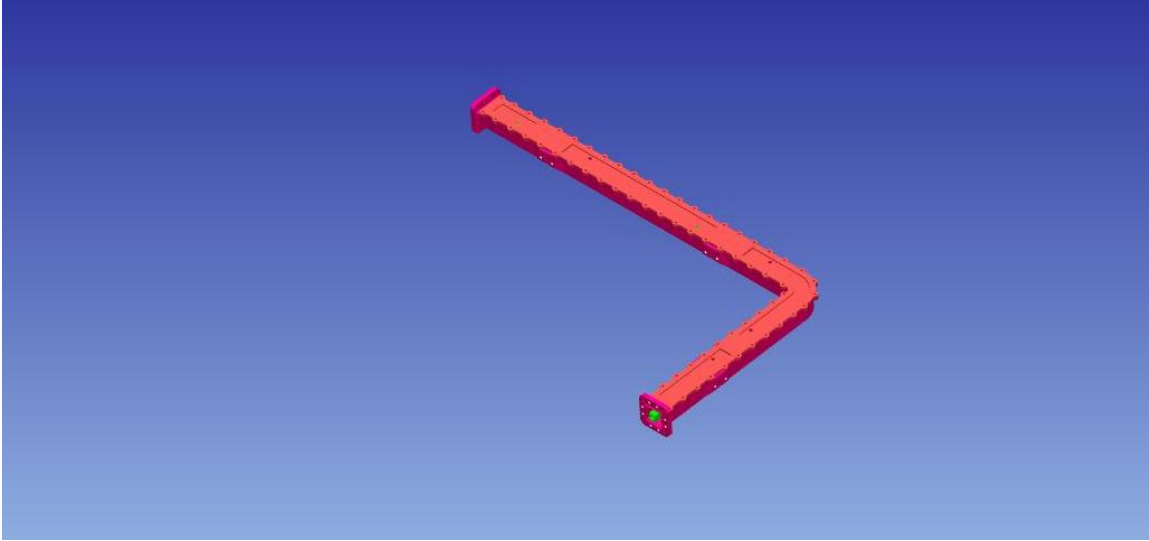
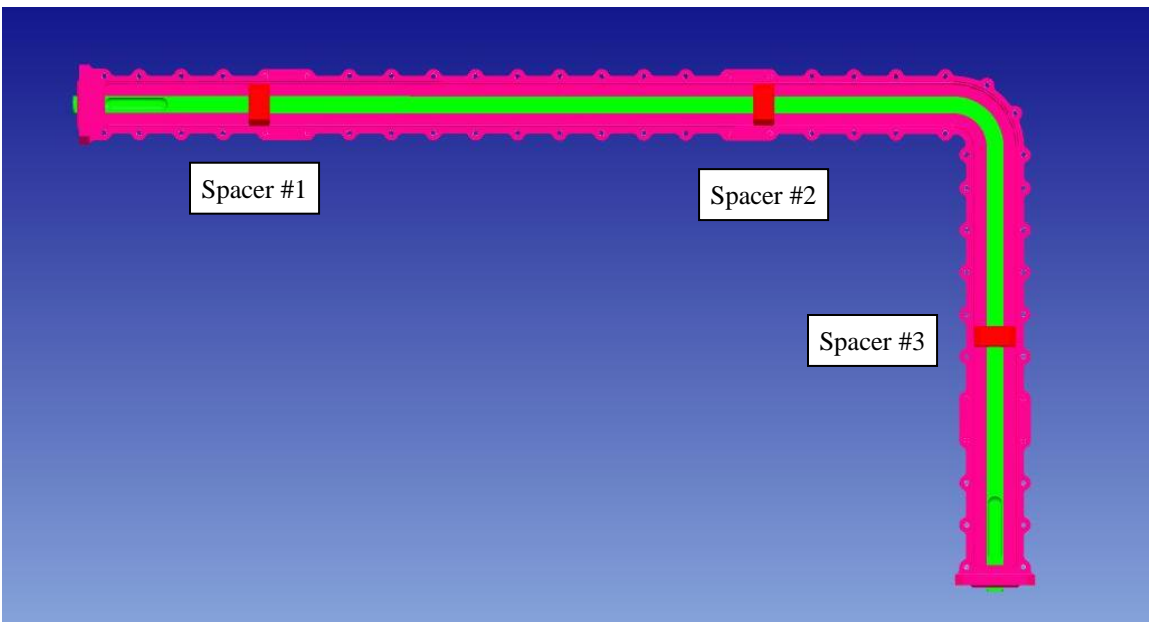
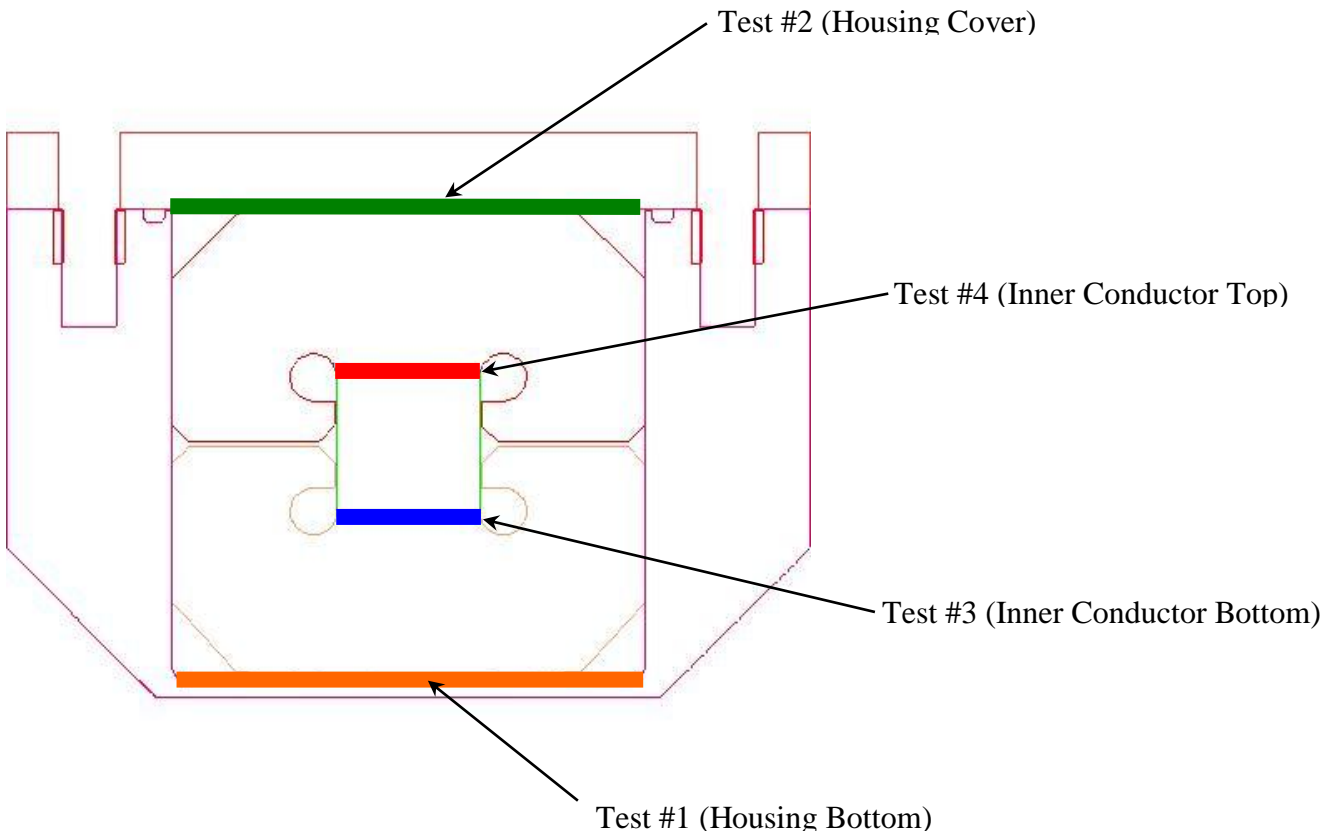

Figure 1: Squareax Assembly (SP940133-002)
Figure 2: Squareax Spacer Layout (Housing cover removed)
Figure 8: Squareax Cross-Section; Pressure-X Film Locations
Note: Squareax Assembly SP940133-002 (Figure 1) with Boron Nitride Spacers at 12 inch spacing (Figure 2) will be used for all pressure tests.
3. Place strips of High Pressure-X film (7,100-18,500 psi) at bottom of housing (Figure 8, **Orange**) at each of the qty 3 spacer locations (Figure 2).
12. Carefully remove top Boron Nitride spacers off of inner conductor. **Do not touch spacers with bare hands, use gloves!** Inspect spacers for damage. Be sure to note which spacer location each spacer was installed at (Figure 2), however, do not mark part. Spacers will be placed in same location in future tests if no damage is found.
14. Carefully remove bottom Boron Nitride spacers off of Pressure-X film strips. **Do not touch spacers with bare hands, use gloves!** Inspect spacers for damage. Again, be sure to note which spacer location each spacer was installed at (Figure 2), however, do not mark part. Spacers will be placed in same location in future tests if no damage is found.
- b. Corresponding spacer location it was taken from (Figure 2)
7. Place strips of High Pressure-X film (7,100-18,500 psi) on top of all top Boron Nitride spacers (Figure 8, **Green**) at each of the qty 3 spacer locations (Figure 2).
- e. Corresponding spacer location it was taken from (Figure 2)
13. Carefully remove top Boron Nitride spacers off of inner conductor. **Do not touch spacers with bare hands, use gloves!** Inspect spacers for damage. Be sure to note which spacer location each spacer was installed at (Figure 2), however, do not mark part.
15. Carefully remove bottom Boron Nitride spacers off of Pressure-X film strips. **Do not touch spacers with bare hands, use gloves!** Inspect spacers for damage. Again, be sure to note which spacer location each spacer was installed at (Figure 2), however, do not mark part.
Repeat steps as above except using Pressure-X film at location #3 (Figure 8)